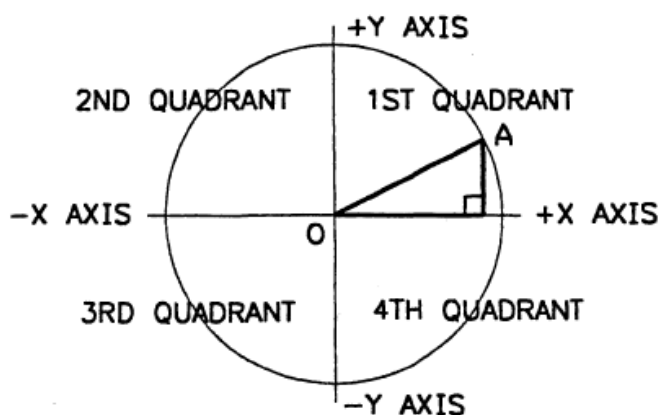

Figure 3 – Cartesian Plane
13. Consider the two right triangles shown in Figure 3. Draw any vertical line up from the side adjacent to ϕ until it meets the hypotenuse. Measure the length of the vertical line, and the distance from the start of the angle ϕ to the point on the adjacent at which the vertical line begins. Regardless of the length of the vertical (opposite) line, the ratio between the opposite side and the adjacent side (with respect to ϕ) remains the same. The same effect occurs between any two sides of a given right triangle – the ratio between any two sides with respect to a nominated angle remains constant regardless of the size of the triangle.